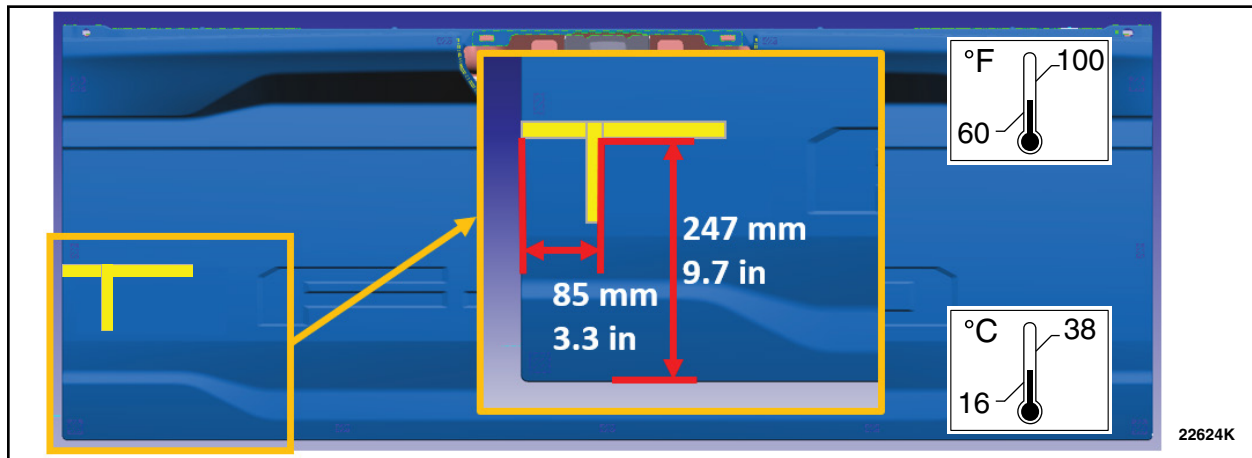

FIGURE 8
34. Measure and apply locating masking tape to the tailgate outer panel. See Figure 8.